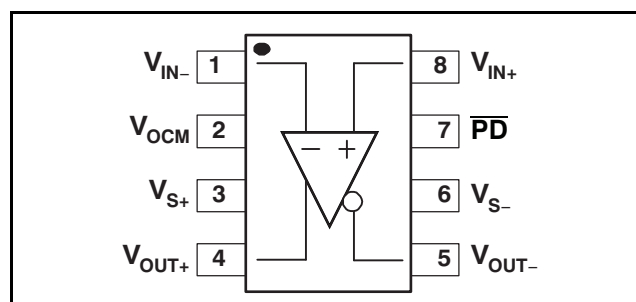

Figure 97. Fully Differential Amplifier Pin Diagram
Fully differential amplifiers are typically packaged in eight-pin packages, as shown in Figure 97. The device pins include two inputs (V_{IN+} , V_{IN-}), two outputs (V_{OUT-} , V_{OUT+}), two power supplies (V_{S+} , V_{S-}), an output common-mode control pin (V_{OCM}), and an optional power-down pin (PD).
A standard configuration for the device is shown in Figure 97. The functionality of a fully differential amplifier can be imagined as two inverting amplifiers that share a common noninverting terminal (though the voltage is not necessarily fixed). For more information on the basic theory of operation for fully differential amplifiers, refer to the Texas Instruments application note *Fully Differential Amplifiers*, literature number SLOA054, available for download at www.ti.com.